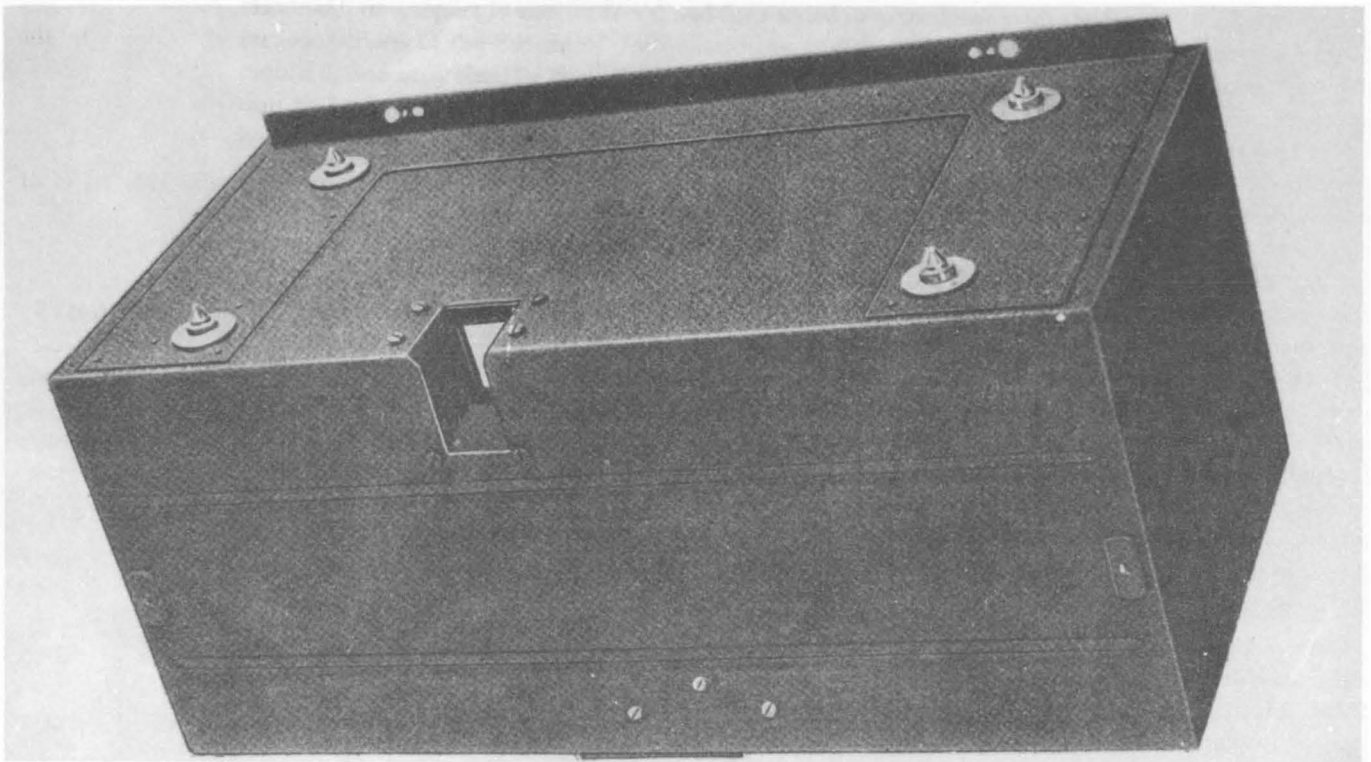

Figure 2 — Bottom and Back View of Cabinet
out in the rear bottom permits the entrance of Plug PL-P103 or PL-Q103. An aluminum casting is mounted over this cutout and acts as a seal between the cabinet and the chassis. The bottom of the cabinet is reinforced by a stainless steel plate to which are attached the four mounting studs for securing the cabinet to the mounting. Two snap slides are mounted on the downward projection of the front of the stainless steel plate. (See fig. 2.)
f. MOUNTING OF RECEIVER.—When proper wiring connections have been made, place the receiver on its mounting with the studs on the bottom of the cabinet entering the slots of the mounting. See that the cabinet is well down on the mounting and that all four studs are fully seated, then push the cabinet towards the rear and secure in place by the snapsides on the lower front corners of the cabinet. (See fig. 2.)